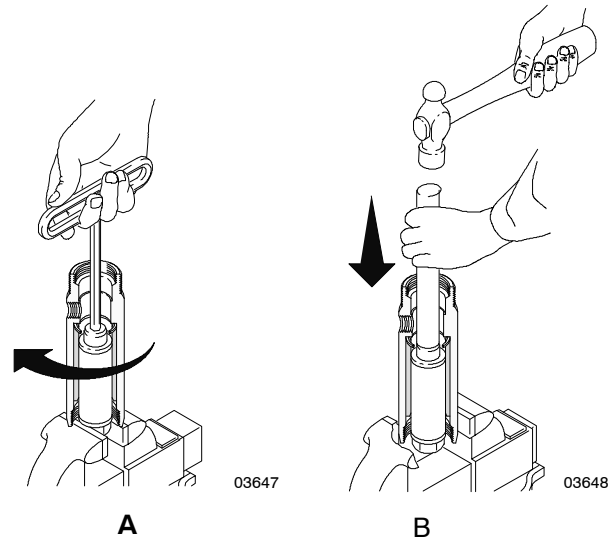

Fig. 11 _____
Fig. 11 (A). **For pump 236533.** Position sleeve removal tool within cylinder with large retaining nut at bottom. Clamp retaining nut in vise. Using Allen wrench (or socket wrench with hex bar), tighten top nut by turning wrench clockwise. This expands cylinder.
Fig. 11 (B). Clamp cylinder flats in vise. Remove Allen wrench (or socket wrench with hex bar). Use rod and mallet to tap and dislodge sleeve and sleeve removal tool.